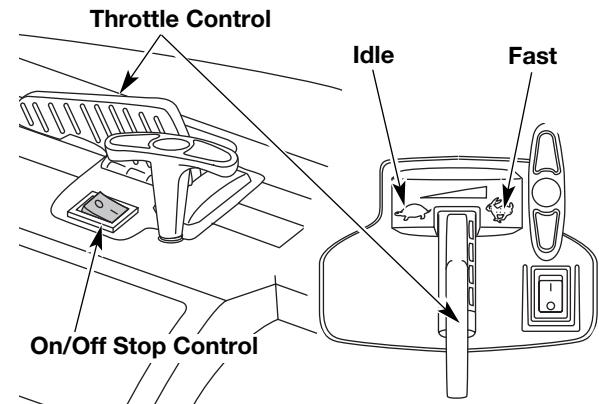
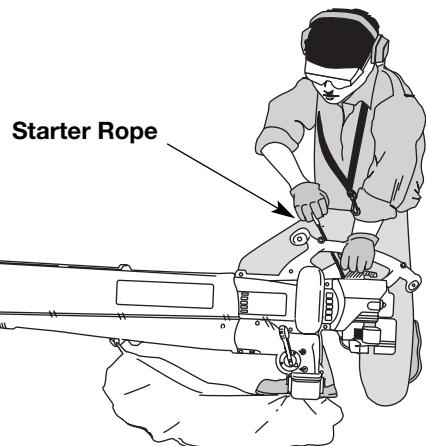

Fig. 9
Fig. 11
WARNING: Avoid accidental starting. Make sure you are in the starting position when pulling the starter rope (Fig. 11). To avoid serious injury, the operator and unit must be in a stable position while starting. Do not set unit on any surface except a clean, hard area while starting. Debris such as gravel, sand, dust and grass could be picked up by the air intake and thrown out by the discharge opening. This could damage the unit, property, or cause serious injury to bystanders or the operator.
5. Place the unit in the starting position (Fig. 11). Move the throttle control to the fast position (Fast) (Fig. 9).